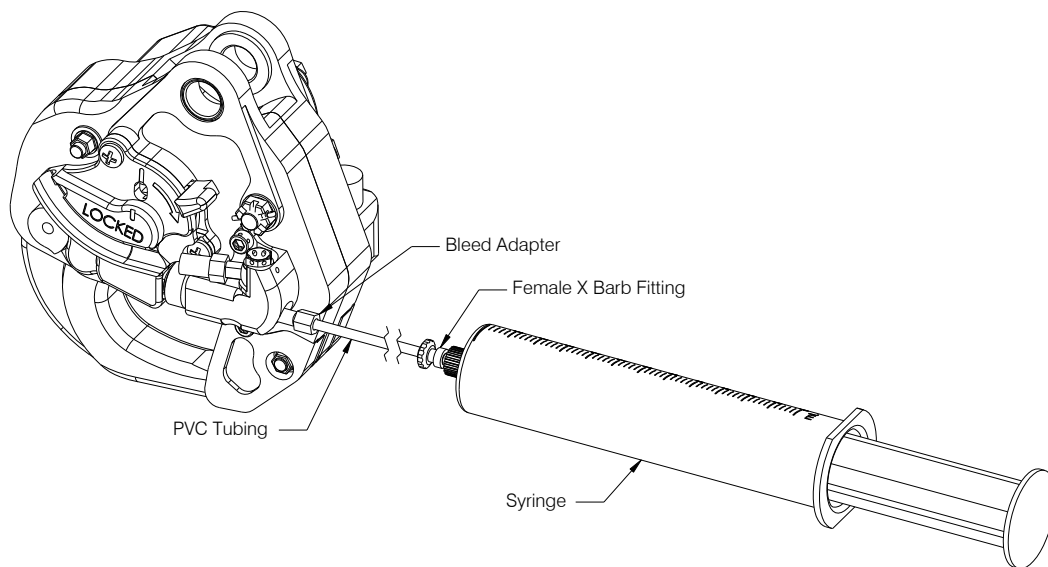

Figure 5.18 Injecting Hydraulic Fluid
- Fill the syringe with the provided hydraulic fluid and purge any remaining air in the syringe and tubing. Screw the end of the bleed adapter into the screw hole on the slave cylinder to create a tight seal. See Figure 5.18